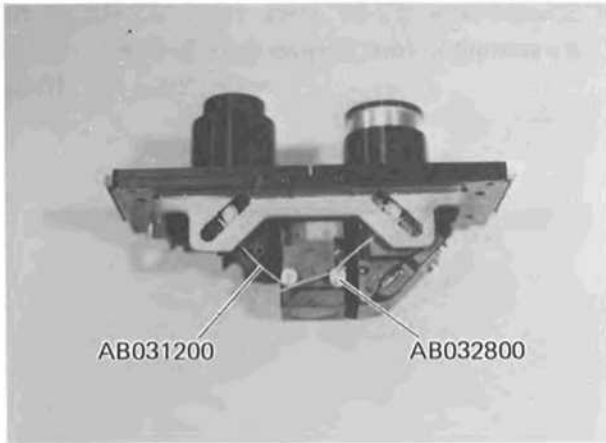

Fig. 10-7
- b) Remove Spring AB031200 from each Key AB031800. (See Fig. 10-7)